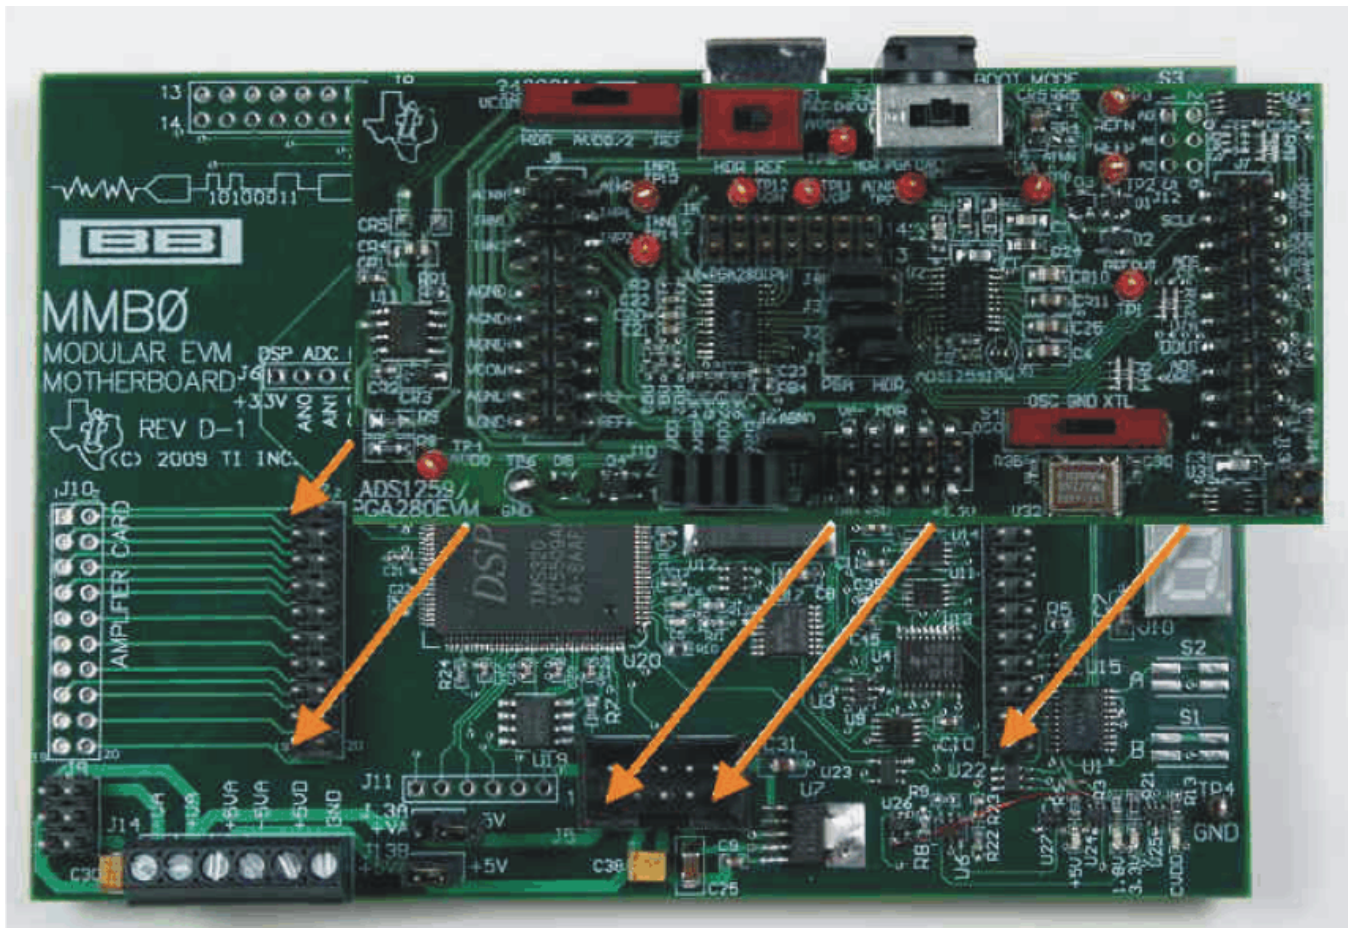

Figure 14. Connecting the ADS1259EVM to the MMB0
Step 3. Plug the ADS1259EVM into the MMB0 as Figure 14 illustrates.